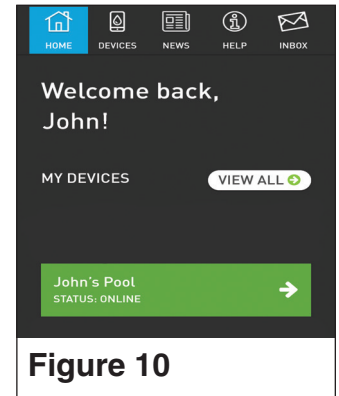

Figure 10
1. Open the Link₂O app and log into your account. The Home Screen and welcome message will display. (see **Figure 10**).
2. Tap the Device tab of the IntelliConnect you wish to view (in **Figure 10** "John's Pool" is shown).